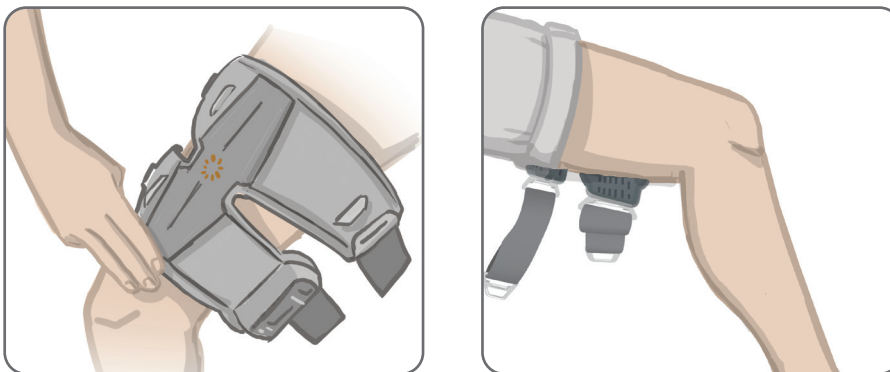

Figure 6-15: Correct Position of the Thigh Cuff Locator
3. Place the Thigh Cuff locator (a tactile finger mark) on the midline of the thigh, approximately three finger widths from the knee. See Figure 6-15. Make sure to place Thigh Cuff in the fitting position determined by your clinician.